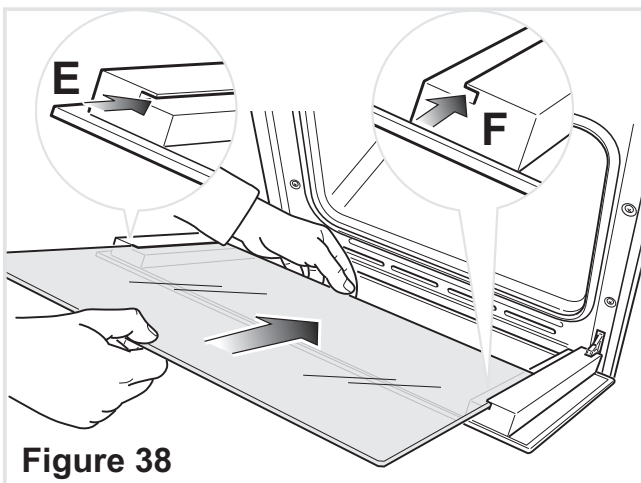
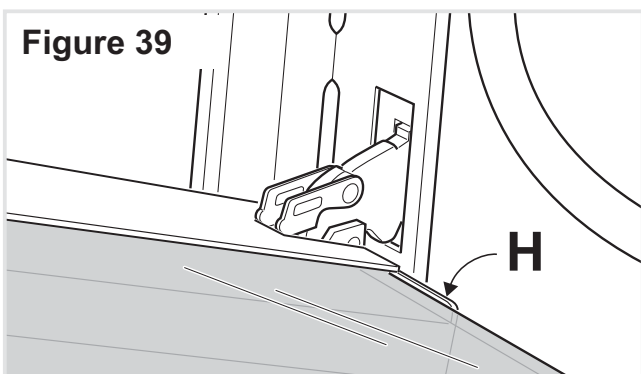

Figure 38
Figure 39
- Insert the pane in the left "E" and right "F" slide guides (fig. 38), and gently slide it to the retainers "H" (Fig. 39).